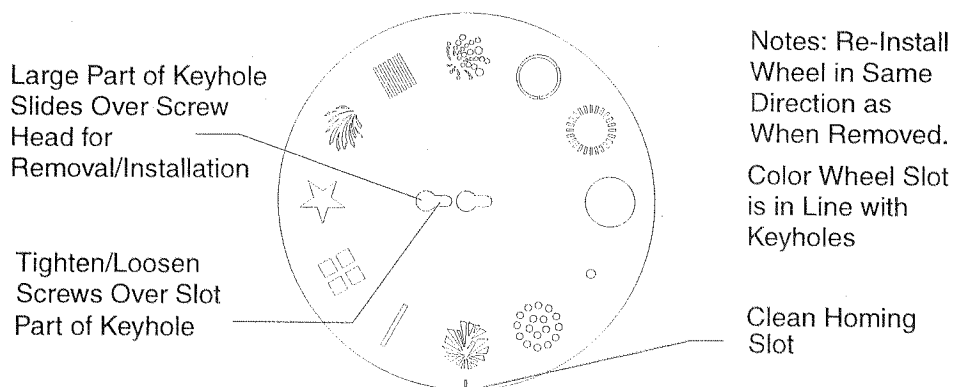

Figure 8.3. Wheel Mounting Slots and Orientation
4. Orient the wheel in the same direction as when you removed it. Re-install the wheel by inserting it into its sensor and then sliding it over its mounting screws. Ensure that you position the wheel all the way into the slot part of the keyhole as Figure 8.3 shows.